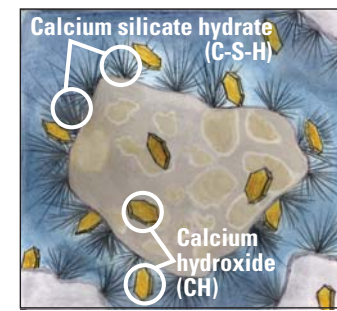

Figure 5. New hydration compounds during stage 3
- “Initial set” occurs when enough C-S-H and CH form to mesh together, causing the mix to stiffen (figure 5).